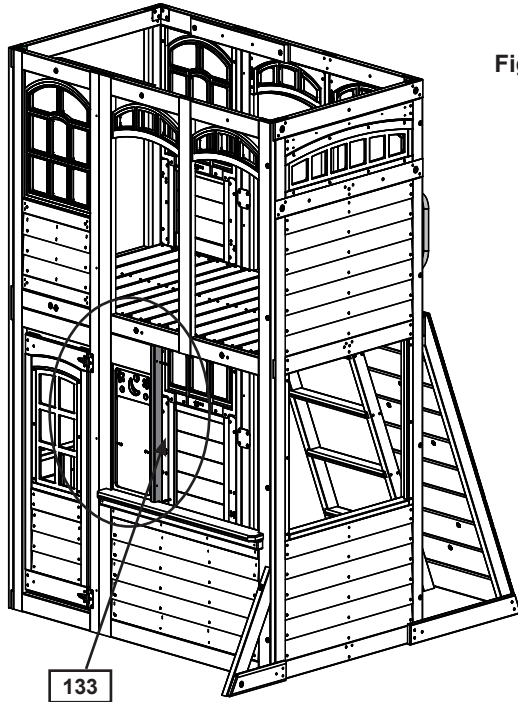

Fig. 13.9
E: From inside the assembly place (133) Chalkwall Side tight to (051) Front Wall Panel, (131) Table Top and (132) Chalkwall Block. Attach to (132) Chalkwall Block first from the side with 1 (S3) #8 x 2-1/2" Wood Screw then from the inside to (051) Front Wall Panel with 1 (S20) #8 x 1-3/8" Wood Screw and (131) Table Top with 1 (S11) #8 x 2" Wood Screw. From the outside attach Sky Chalkwall to (133) Chalkwall Side with 1 (S10) #8 x 1" Pan Screw. (fig. 13.9, 13.10 and 13.11)